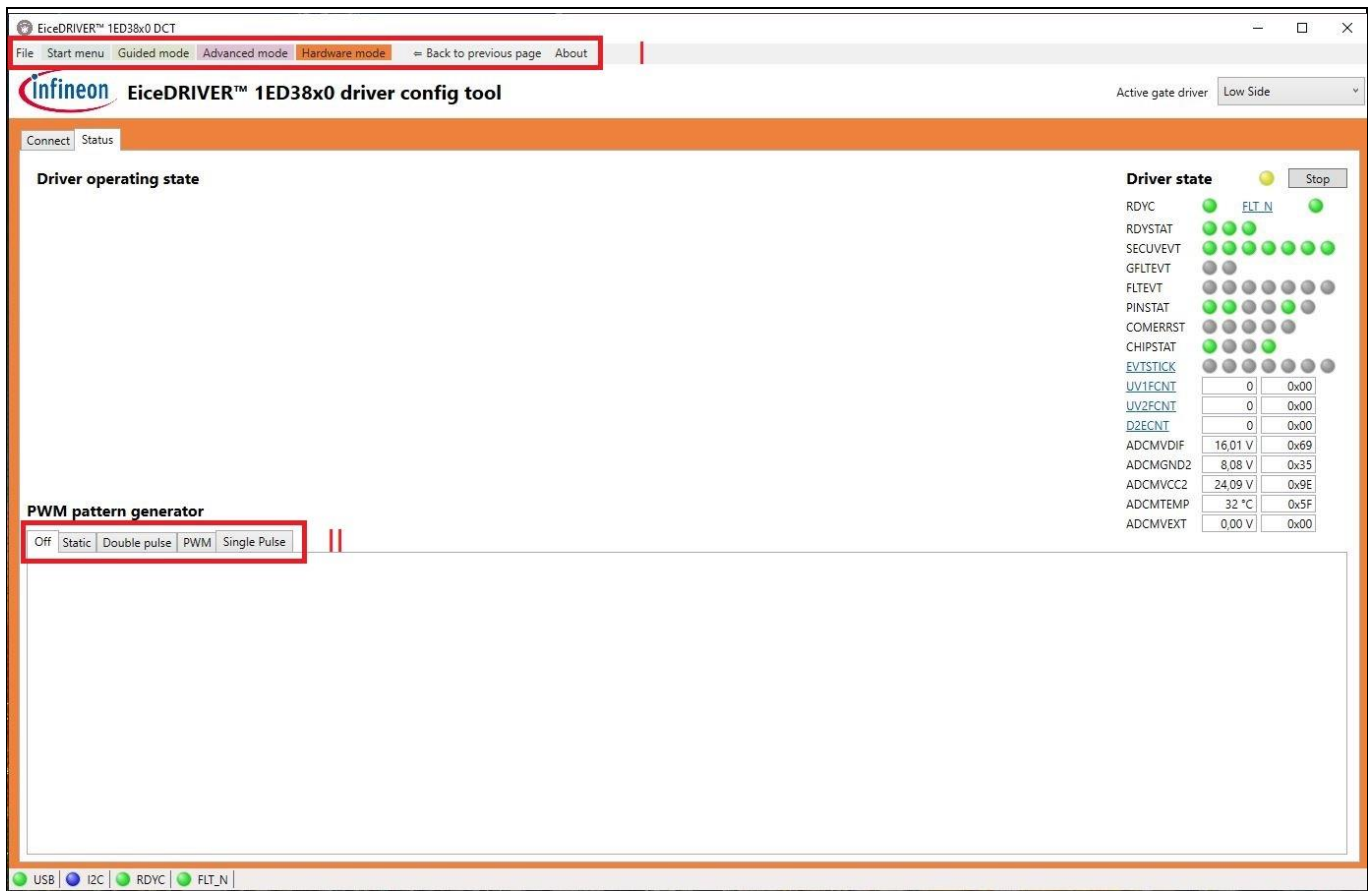

Figure 17 Landing page if GUI is connected with the DCT-board and the EVAL-FFXMR20KM1HDR
8. If the GUI is connected correctly with the EiceDRIVER™ Eval-1ED38x0DCT microcontroller board and the EVAL-FFXMR20WXM1H, the landing page will change as shown in Figure 17.